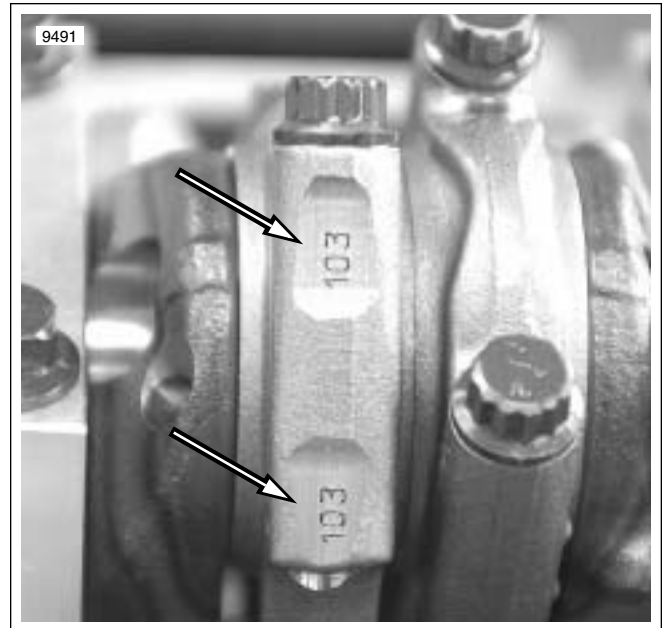

**Figure 3-193. Install Crankshaft Assembly Retainers (HD-45316)**
1. See Figure 3-193. Install CRANKSHAFT ASSEMBLY RETAINER (HD-45316).